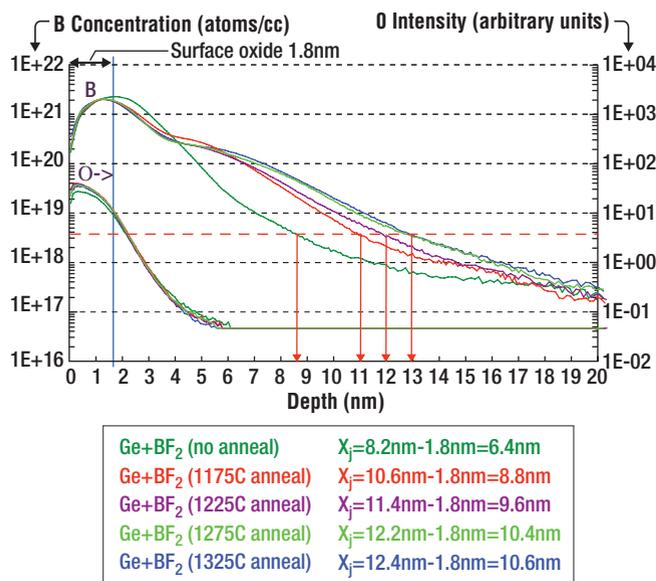

Figure 2. B dopant profile and surface oxide profile using PCOR-SIMS for Ge+BF2.
Achieving shallow as-implanted Xj does not guarantee USJ after MSA, where as much as 4nm of dopant diffusion can occur due to diffusion during amorphous layer regrowth, especially when using PAI. PCOR-SIMS of B and surface oxide for 10keV Ge-PAI at 5E14/cm2 and 500eV BF2 at 1E15/cm2 implantation on the AIBT iPulsar single wafer high-current implanter followed by MSA on the Applied Materials DSA sub-melt laser annealer at 1175°C, 1225°C, 1275°C, and 1325°C is shown in Fig.2. Compared to the no-annealed reference, 1175°C anneal resulted in 2.4nm of B dopant movement; this increases to 3.2nm at 1225°C, 4.0nm at 1275°C, and 4.2nm at 1325°C. The sheet resistances (Rs) reported in ref. 2 were 2000 Ω/sq. for 1175°C and 1225°C, 1800 Ω/sq. for 1275°C and 1400 Ω/sq. for 1325°C. The corrected electrical Xj was determined by subtracting out the 1.8nm surface oxide thickness detected by PCOR-SIMS, so the calculated B dopant activation level limited by boron solid solubility (Bss) varied from 6 to 8E19/cm3 as shown in the Rs versus Xj chart of Fig. 3.